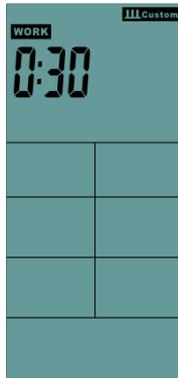

FIG 15
3. Press "ENTER" confirmed, "WORK" ICON is flashing, LCD window "TOTAL TIME" display the presetting value 0:30. Press "UP - DOWN" button to setting (setting range: 0:05~30:00), it is non-recyclable (FIG 15).